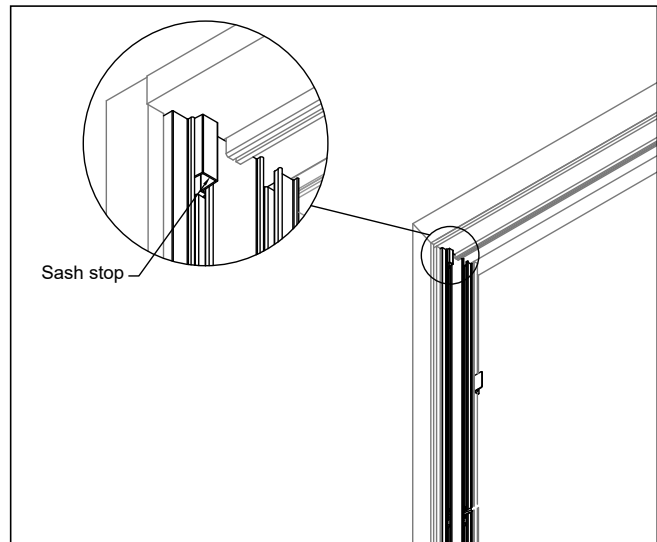

Figure 6
5. Install two vinyl sash stops (one per side) in the interior track at the top of each vinyl jamb liner. See figure 6.